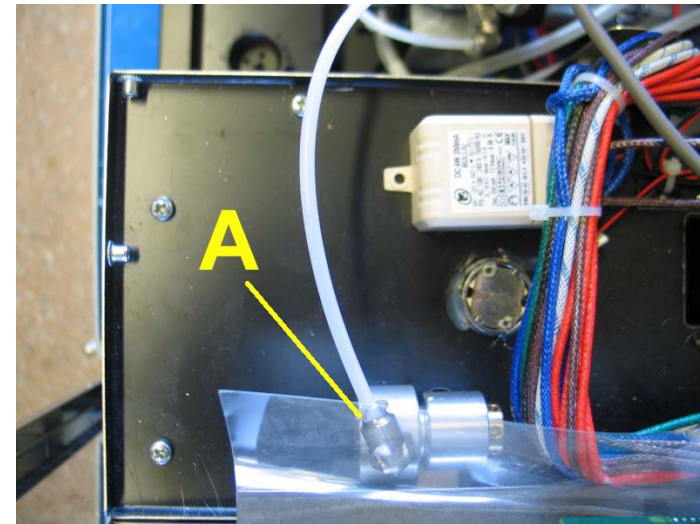

Fig.1
3. Disconnect the tube from its pipe A. (Fig.1)